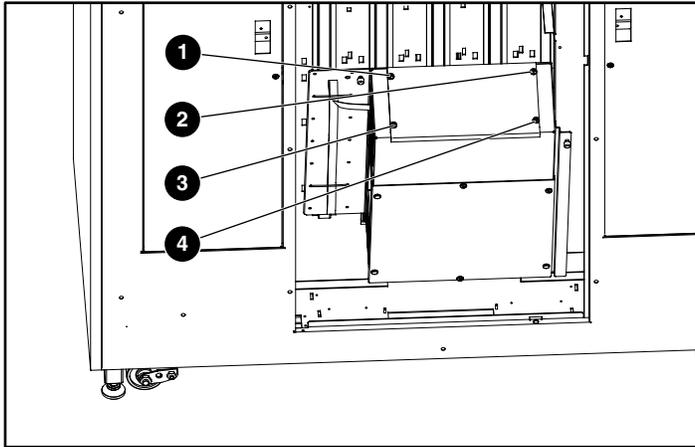

Figure 3: Removing the top cover
- ❶ Captive screw
- ❷ Top cover
- ❸ Electronics bay
- ❹ Captive screw
5. Remove the four screws at the corners of the top cover (see Figure 3) and remove the cover.